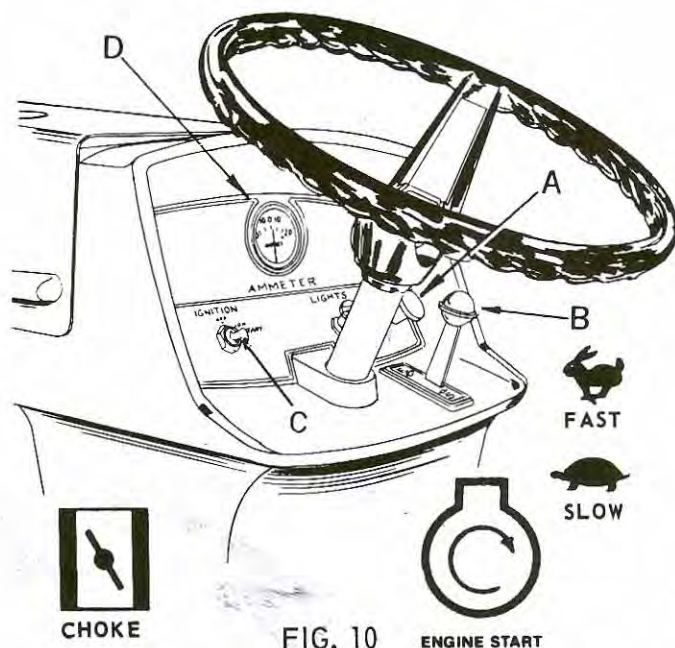

FIG. 10 ENGINE START
4. Pull out choke control (A, Fig. 10), to full choke position to start in cold weather.
5. Advance throttle control lever (B, Fig. 10),
6. Depress foot pedal all the way down and turn ignition-start key (C), clockwise to engage starter. When engine starts, release key. After engine starts, push in choke control (A), as engine warms up. Let engine warm up before applying load.
CAUTION: Do not run starter continuously for more than 30 seconds at a time. If after several attempts, engine does not start, move throttle control lever (B, Fig. 10), to FAST position. Wait for two minutes and try again.
7. Ammeter (D), indicates rate of battery charge or discharge when ignition is on.
8. To stop engine, turn key (C, Fig. 10), in a counter-clockwise direction to off position. Key should be removed so children can not start tractor.